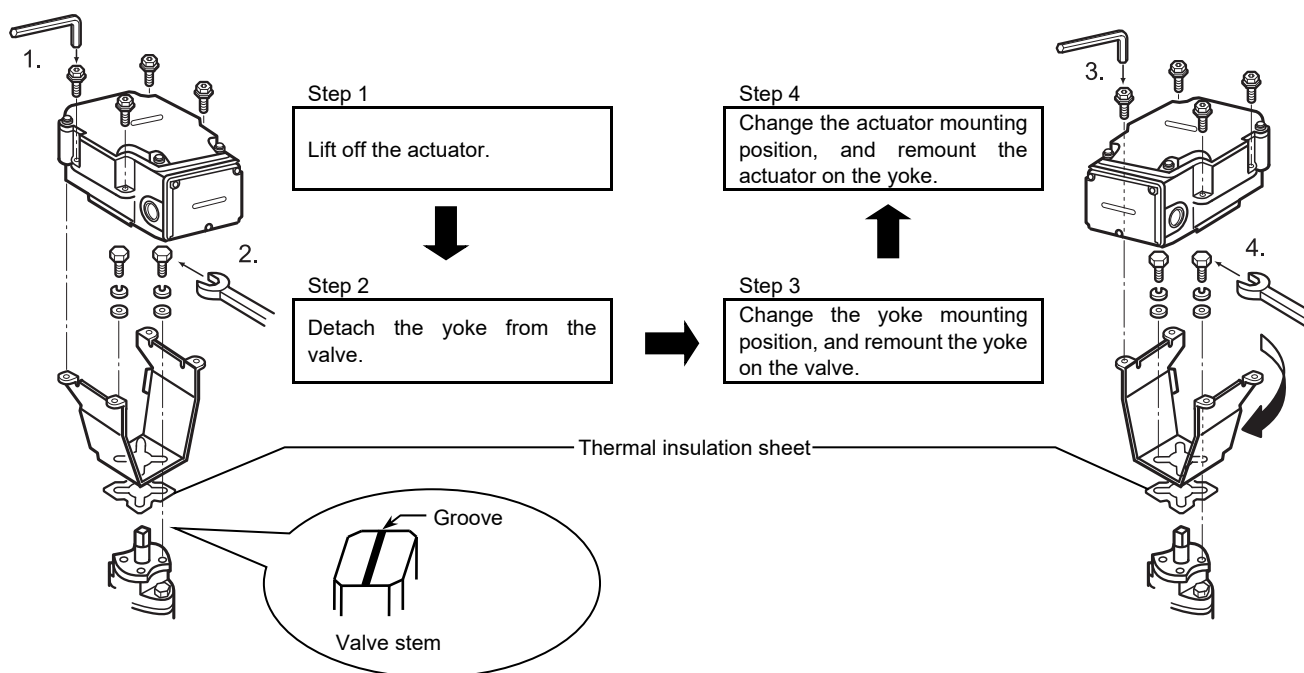

Figure 9. Changing the actuator mounting position
- 1) Remove the screws connecting the actuator and the yoke. Lift the actuator and detach it from the yoke. Make sure that the groove on the top of the valve stem is parallel to the pipes (indicating the valve in 100 % position). <Step 1 in Fig. 9>
- 2) Remove the screws connecting the yoke and the valve. <Step 2 in Fig. 9>
- 5) Before fixing the yoke to the valve with the screws, check that the actuator engages correctly with the valve stem (at the new mounting position). Check that the pointer of the actuator indicates 100 % position as well. Then, fix the yoke to the valve. <Step 3 in Fig. 9>
- 6) Mount the actuator. Place the actuator, with its facing direction changed, on the yoke, and fix them with the screws. <Step 4 in Fig. 9>